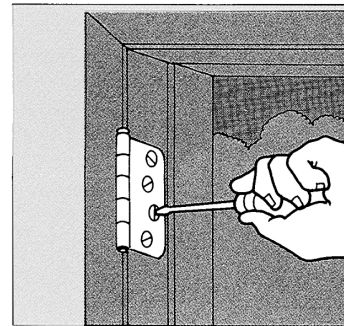

Figure 1A-1
1. Remove all the hinge sections still attached to the door jamb (Figure 1A-1). Because the surface of the wooden jamb will be completely covered with the Bristol steel replacement jamb, you don't have to worry about scarring this surface, it won't show.